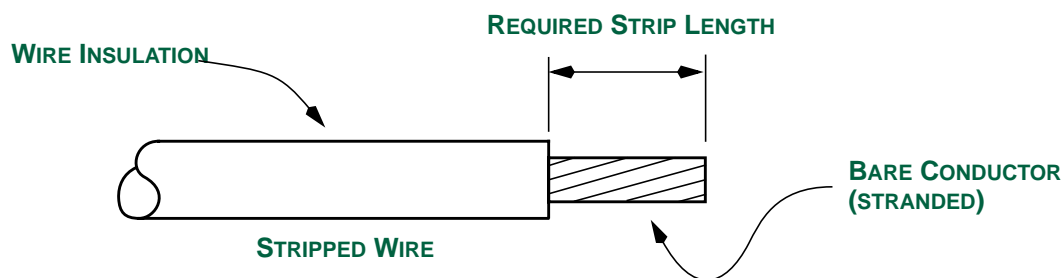
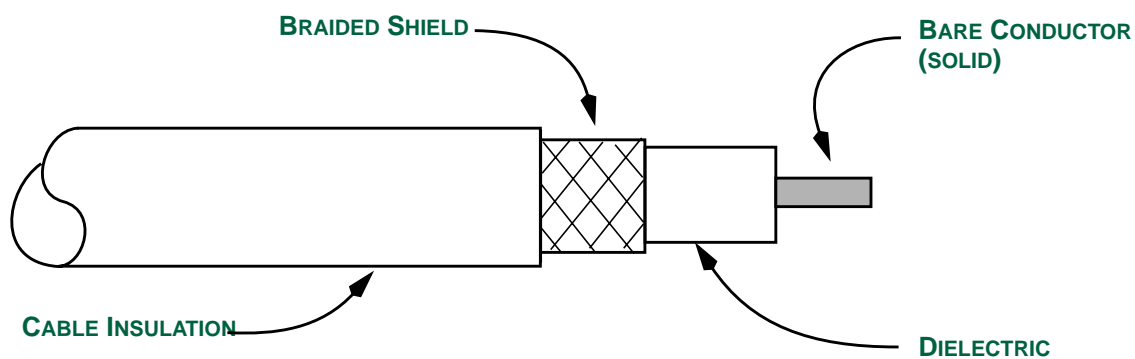

FIGURE 1 - TYPICAL WIRE STRIPPING
FIGURE 2 - TYPICAL CO-AXIAL CABLE STRIPPING
- 5.1.2 Before wires can be terminated with lugs, contacts, connectors or terminals it is necessary to remove a certain length of the wire insulation to expose the wire conductor (e.g., as shown in Figure 1 and Figure 2). The amount of wire insulation which must be removed as specified herein is calculated to ensure that the stripped wire will bottom in the wire barrel with no insulation protruding into the wire barrel to ensure good conductivity.